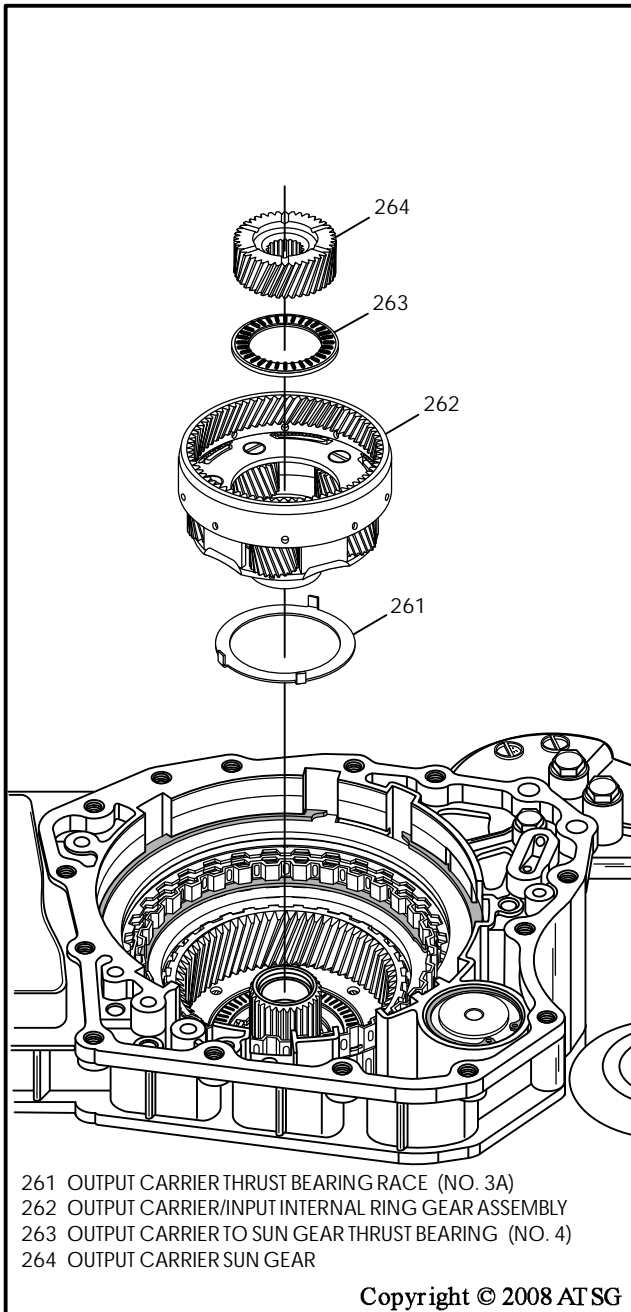

Figure 200
26. Ensure that number 3A thrust bearing race and number 4 thrust bearing are still in place on the output carrier, as shown in Figure 200, and install the output carrier assembly by rotating into position.
27. Install the output sun gear by rotating into the output carrier, as shown in Figure 200.